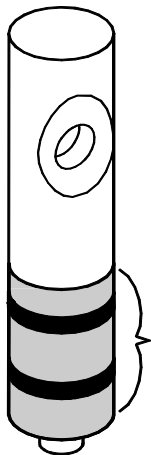

Fig. 22
- a. Install the two o-rings on the spigot plunger by rolling them onto the plunger. Seat the o-rings in the grooves. Be certain that they are not twisted. Smooth the lubricant into the grooves and over the sides of the plunger assembly (Fig. 22).